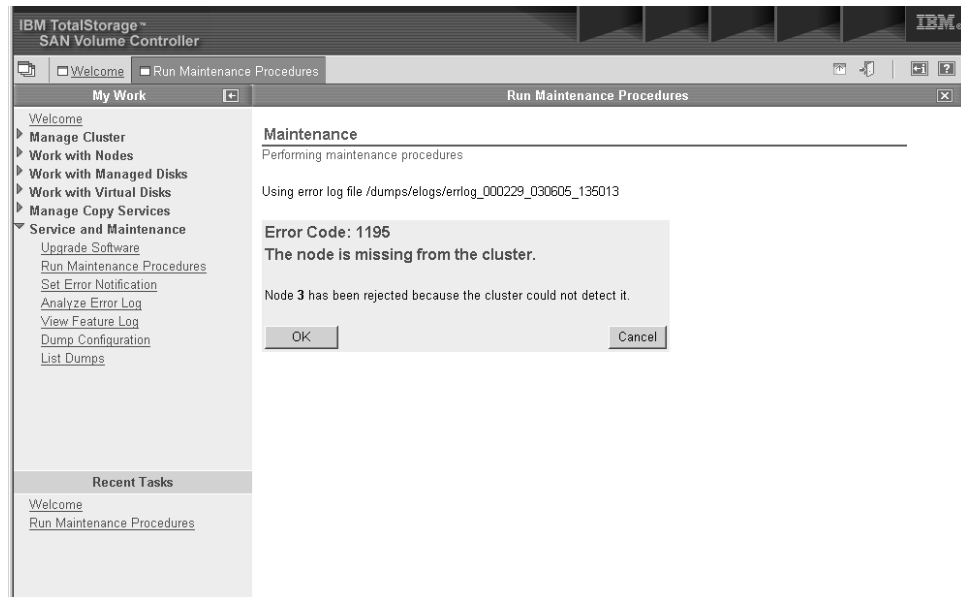

Figure 37. Example of what is displayed when you look for the error code
3. Click the hyperlink for the number for the error code at the top of the list to display what is shown in Figure 37 on page 25.
Figure 37 shows the error code and provides a description of the error condition.